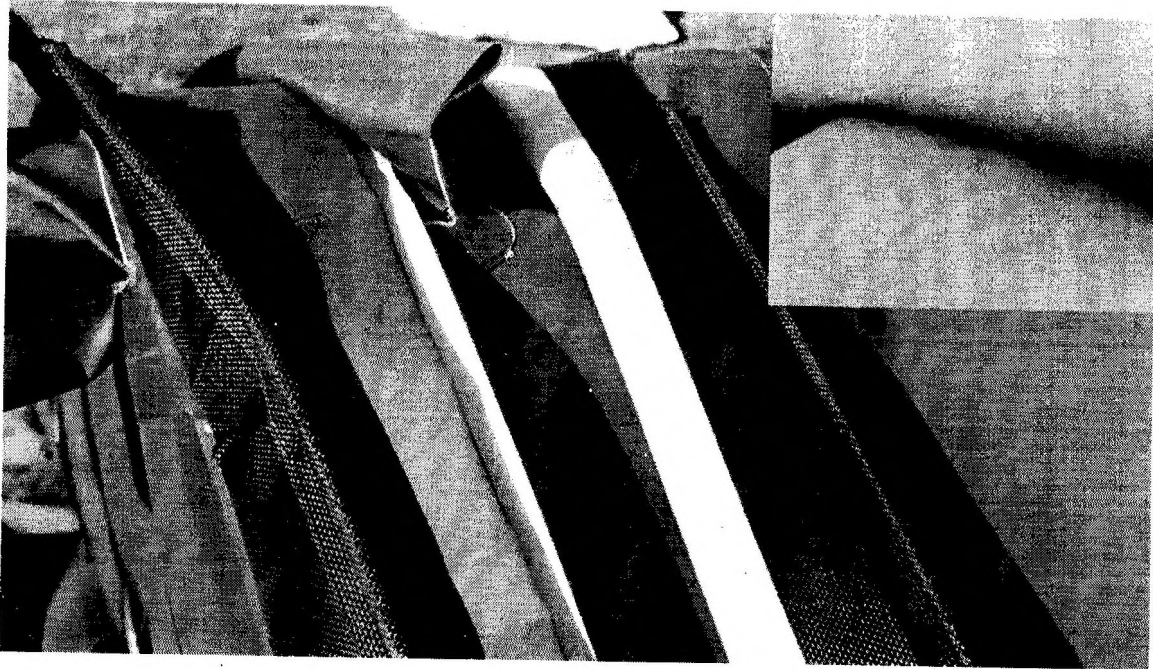

Figure 35: Aligned Cover Position
40. When connecting the keder rail it is essential that the lacing is carried out with the covers in precisely the correct position or the lacing will not line up correctly, see Fig 35. The PVC Roof and Wall cover has a manufacturing mark in the top centre which can aid alignment, Fig 35 inset.